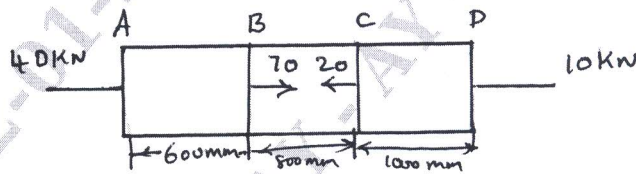

Fig.Q1(c)
- c. A brass bar having cross section area of  $900 \text{ mm}^2$  is subjected to axial forces as shown in Fig.Q1(c). Find the total elongation of the bar if  $E = 1 \times 10^5 \text{ N/mm}^2$ .